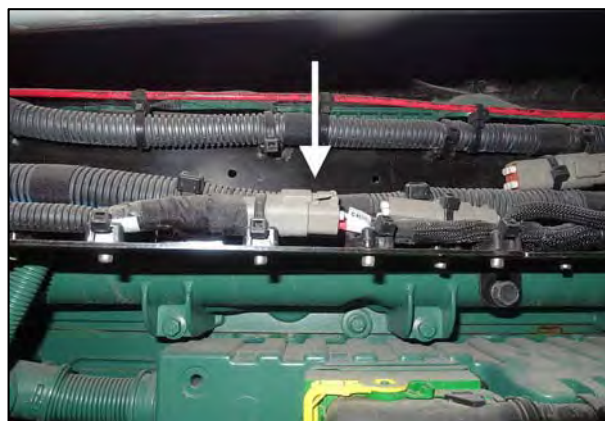

FIGURE 31
37. Route control harness up over the engine to C_ALT connector. (Figure 31)